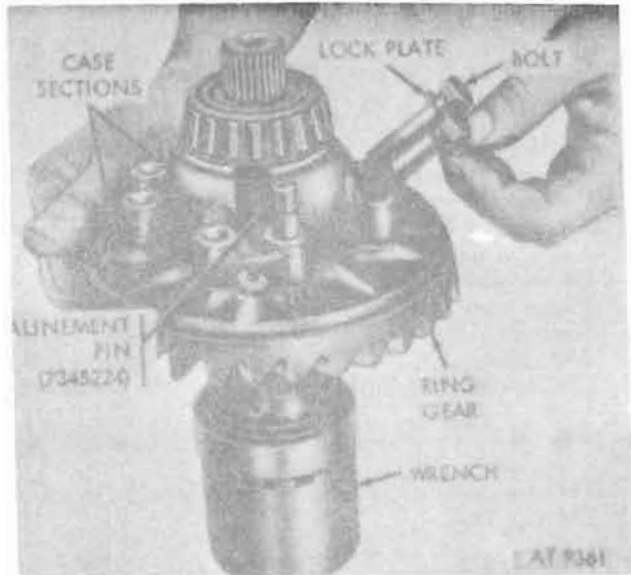

Figure 12-42. Using alignment pins (7345224) to assemble drive gear to differential case.
g. Assemble drive (ring) gear to case using alinement pins (7345224) (fig. 12-42).
i. With alinement pins (7345224) in place, position lock plates and start bolts into ring (fig. 12-42).